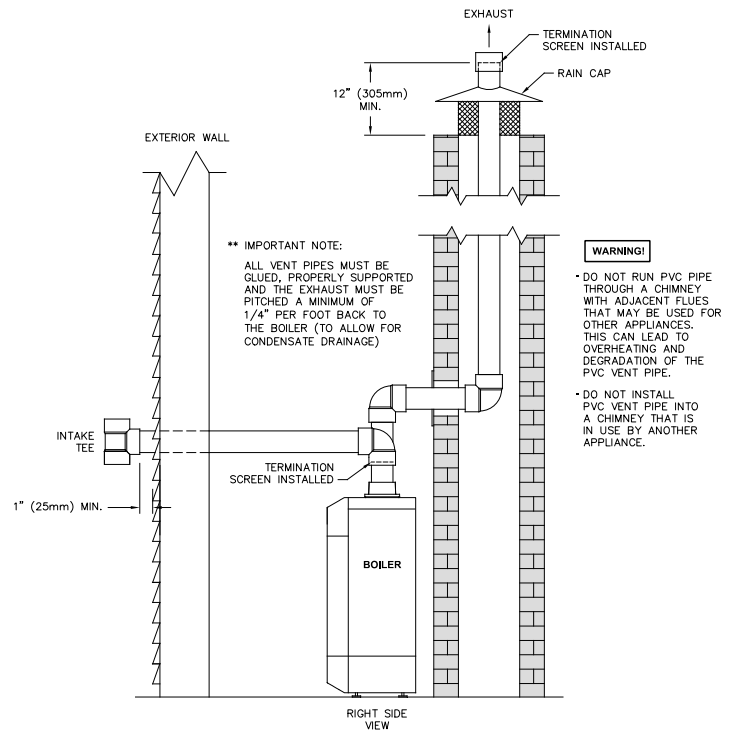

**Figure 3.8: Standard Vertical Vent Installation**
a. Figure 3.8 shows the approved venting configuration for vertical venting using the standard fittings supplied.
- g. Refer to Figures 3.8 through 3.12 for vertical venting options using PVC or CPVC pipe.